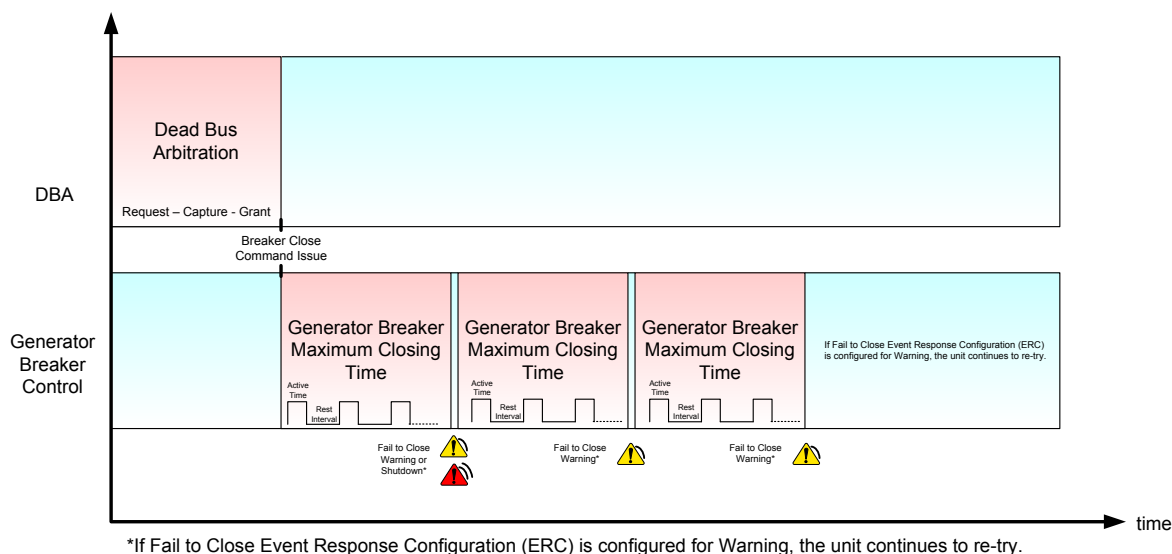

Figure 37.15 – Dead Bus Fail to Close Scenario with a Single Unit Requesting
- If no other units are requesting, the Generator Breaker Maximum Closing Time (setpoint) within the Generator Breaker Control logic determines how long after issuing a breaker close a unit can try to close. If the Generator Breaker Maximum Closing Time (setpoint) expires with no detection of breaker closed a Generator Breaker Fail to Close (SPN-FMI: 4011-31) event is triggered (Figure 37.15).